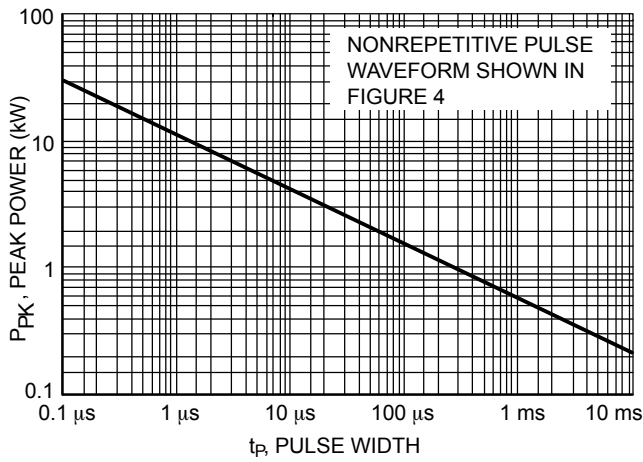
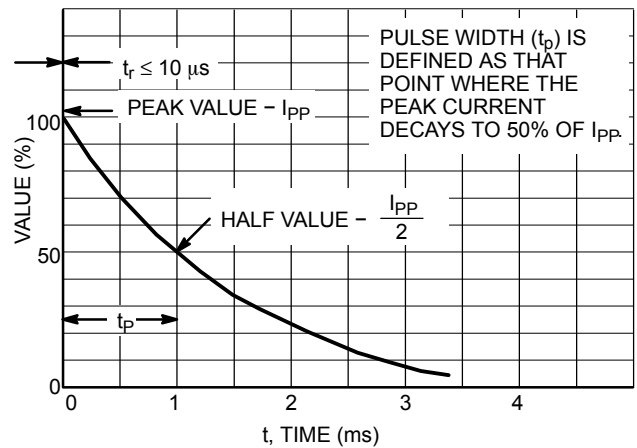
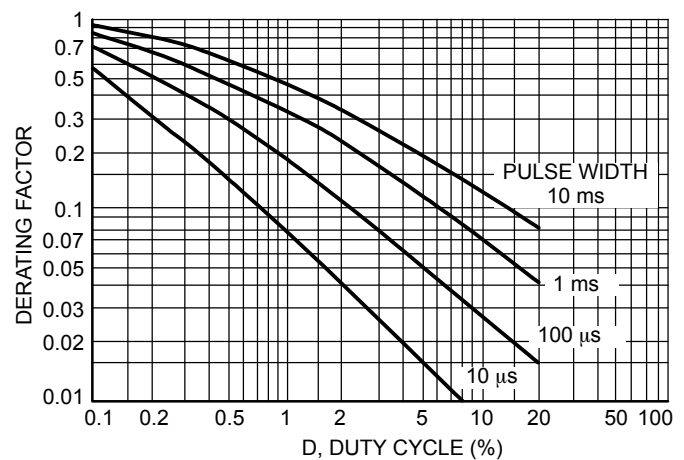

Figure 1. Pulse Rating Curve
Figure 4. Pulse Waveform
Figure 6. Typical Derating Factor for Duty Cycle
5. Surge current waveform per Figure 4 and derate per Figures 1 and 2.
The data of Figure 1 applies for non-repetitive conditions and at a lead temperature of 25°C. If the duty cycle increases, the peak power must be reduced as indicated by the curves of Figure 6. Average power must be derated as the lead or ambient temperature rises above 25°C. The average power derating curve normally given on data sheets may be normalized and used for this purpose.
At first glance the derating curves of Figure 6 appear to be in error as the 10 ms pulse has a higher derating factor than the 10 μ s pulse. However, when the derating factor for a given pulse of Figure 6 is multiplied by the peak power value of Figure 1 for the same pulse, the results follow the expected trend.